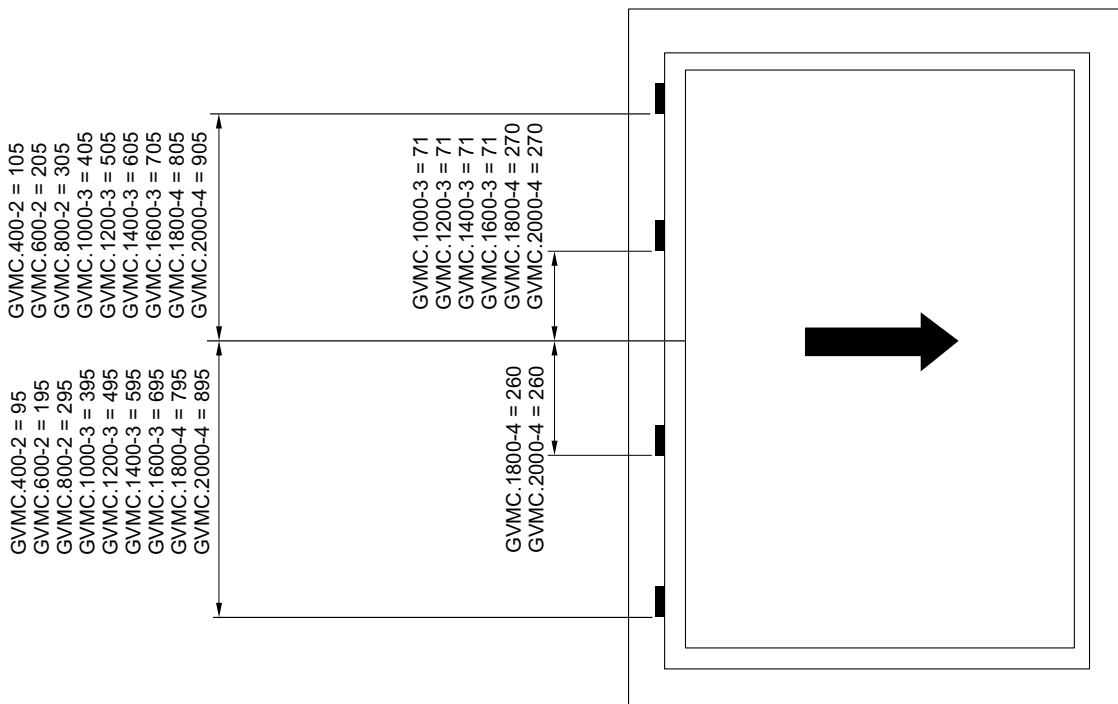

Fig. 1: Keep position "central handle position for D15.5"
- See Group 6, Figure 1, 2 & 3 for installation position
Figures 1 and 3 show the different options for keep positions. The number of positions depends on the size of the window.